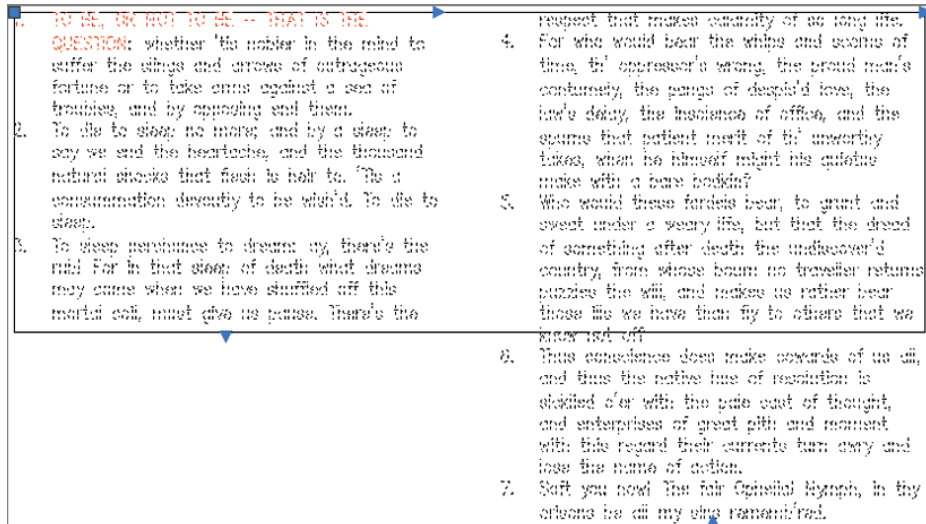

FIGURE 10.17 Moving the middle grip to the left to resize columns
- Click the Column Width (middle) grip, and move it to the left to reduce the size of both columns simultaneously. Click to set its new position. Click and move the right grip until it reaches the right edge of the rectangle, and then click to set its new position (see Figure 10.17).